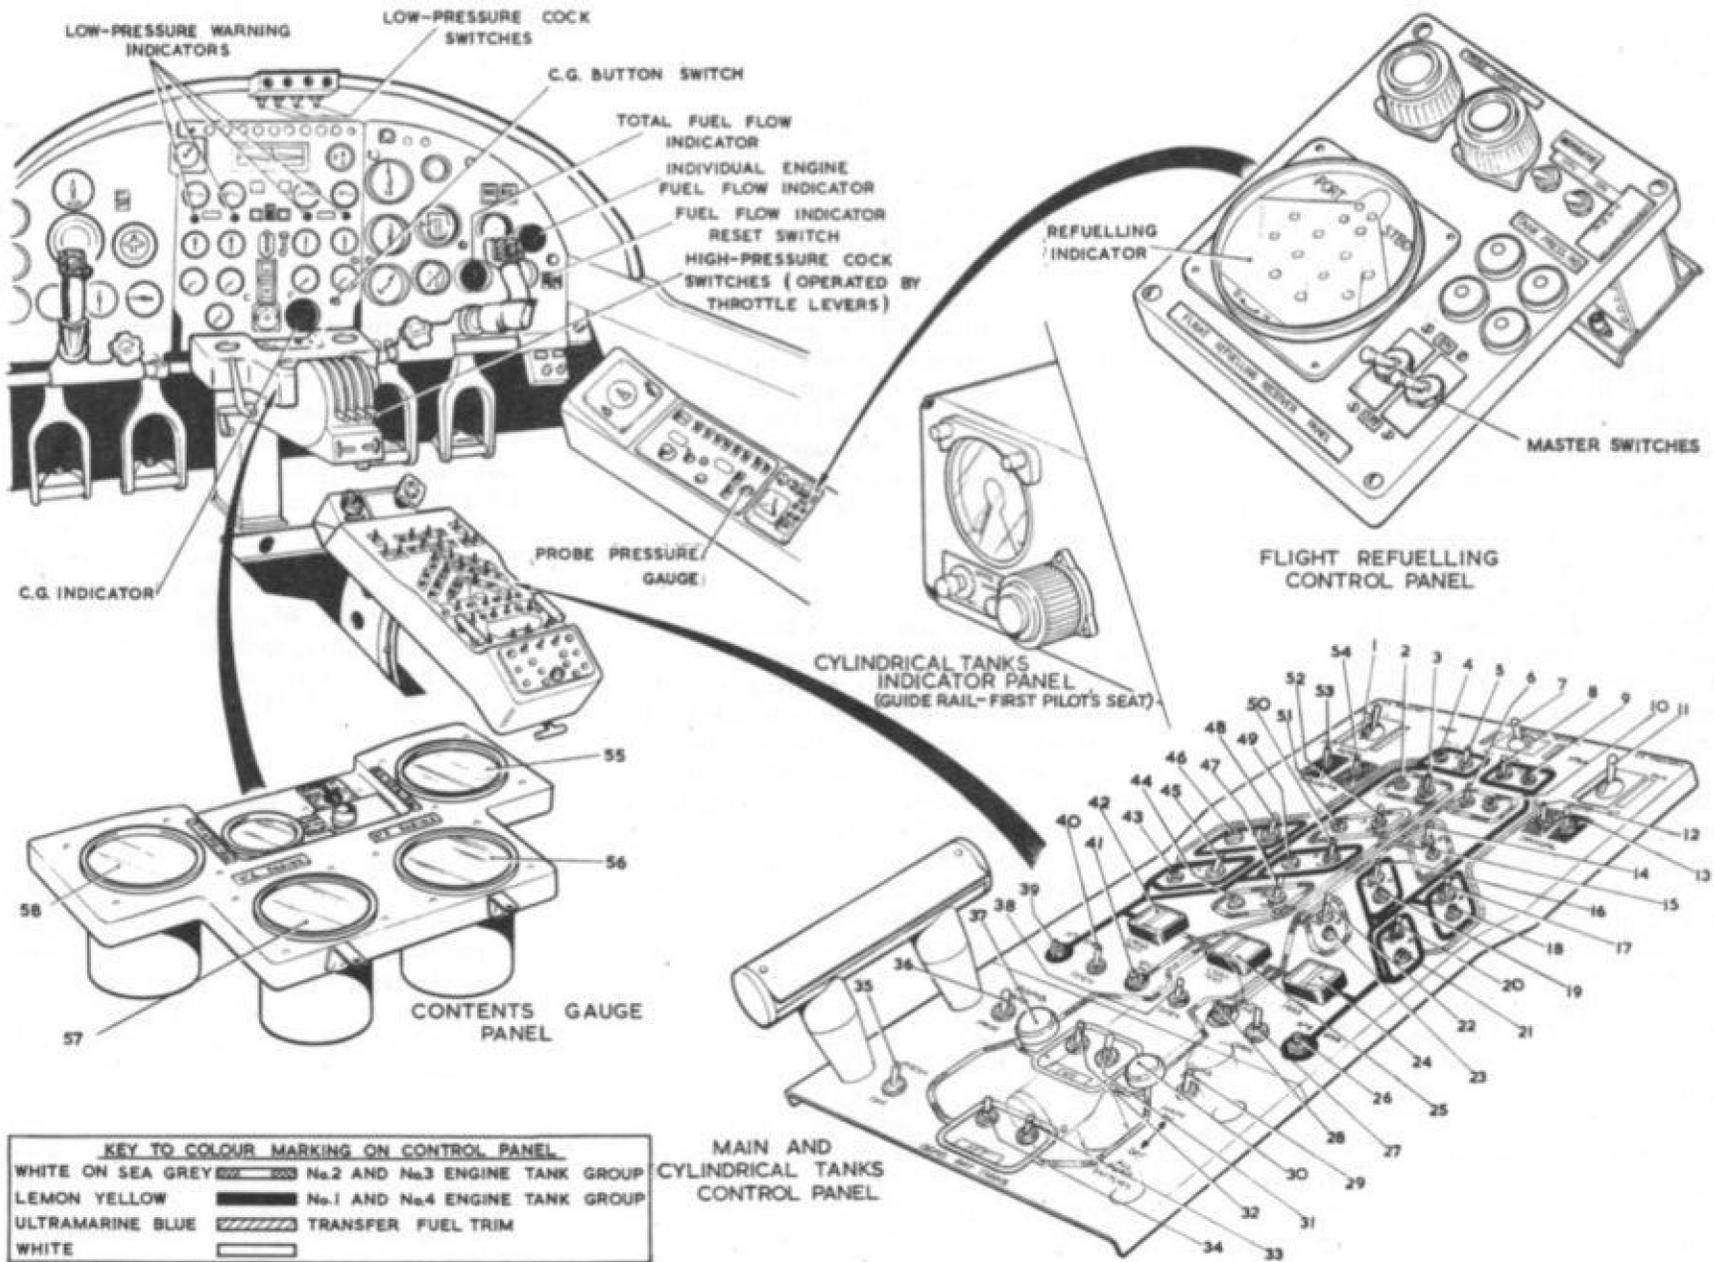

Fig. 2 Fuel system controls
consist of an engine cross-feed cock between each inboard and outboard engine and an aircraft cross-feed cock between the port and starboard sides of the fuel system, and are controlled by switches on the cockpit centre console (fig.2).
7. The fuel delivery system controls are on the aft portion of the cabin centre console which also contains the fuel delivery pump, transfer pump and cross-feed cock switches. Fourteen push-switches are also housed on the console, those adjacent to the fuel pump switches being used to select individual tank contents readings. A further four push-switches, one to each engine, are used to select the fuel flow gauge reading of a particular engine. The controls are grouped on the console to represent a plan view of the aircraft fuel system, enabling the pilot to see, at a glance, how to control the system manually. The three groups are outlined on the control panel by coloured lines as indicated on fig.2. Four contents gauges, one to each group of tanks, are mounted on the forward portion of the centre console. The contents gauges indicate on the inner scale the amount of fuel, in pounds, in each of the tank groups. The contents of an individual tank in a particular group can be obtained by pressing the associated push switch on the centre console and the tank group gauge outer scale will then indicate the amount of fuel in that tank.
Key to Fig. 2